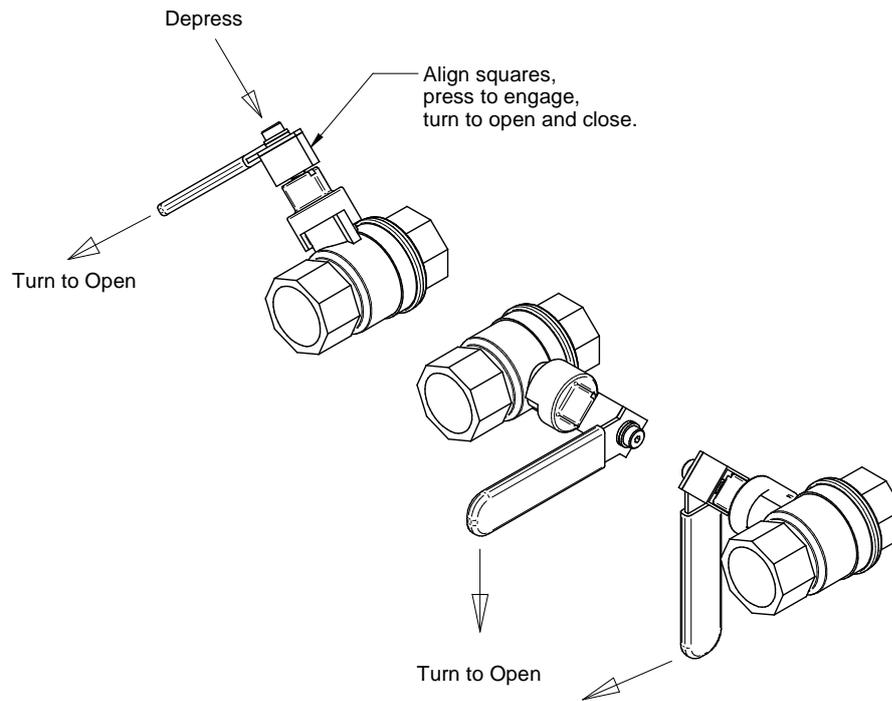

Fig 5.
3. Screw the drain pipe (1) onto the drain valve and place a suitable container under the outlet of the pipe.
4. Ensure the tap handle is in the unlocked position (see Fig 5.). Open the tap and allow the oil to drain into the container taking care not to overfill it.